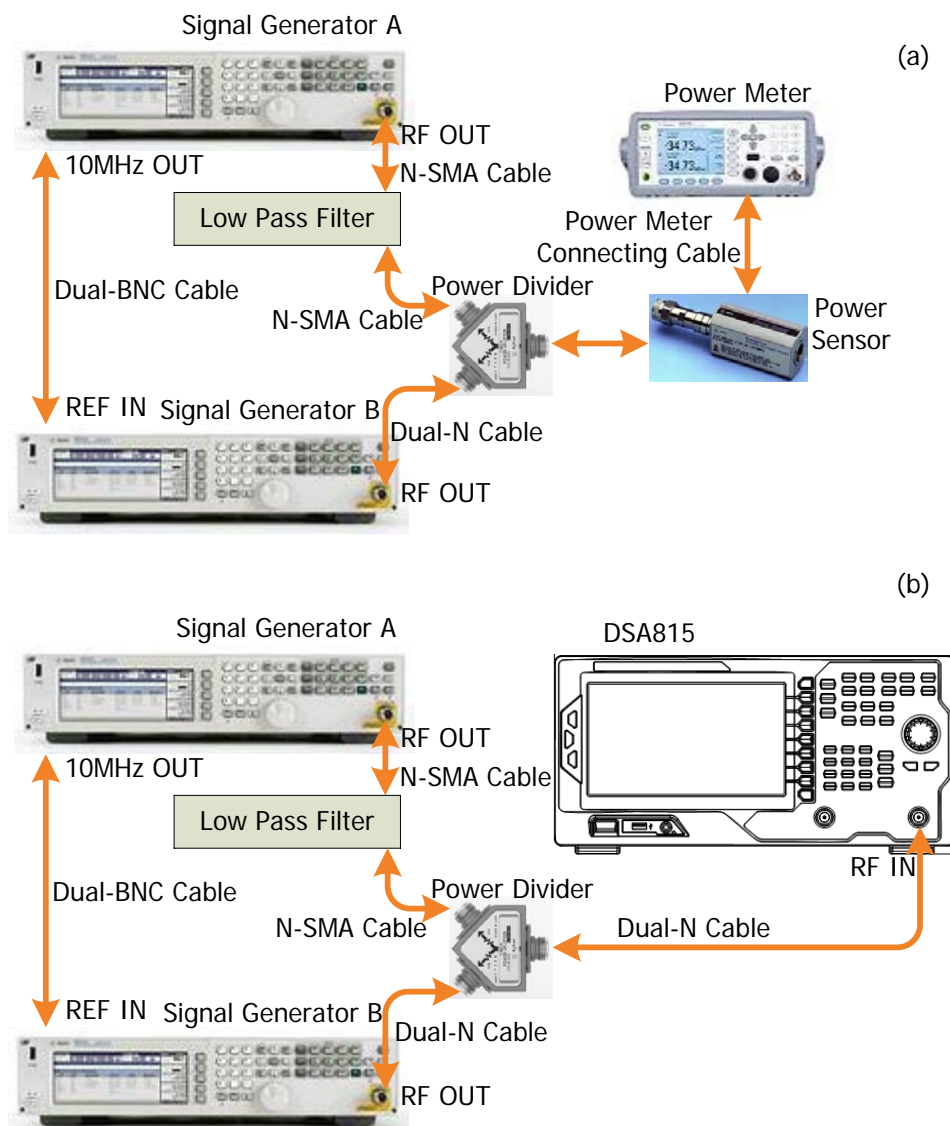

Figure 2-6 TOI Distortion Test Connection Diagram
4. Connect the output terminal of signal generator B with the power divider and connect the power divider with the power sensor, as shown in Figure 2-6 (a).
7. Enable the outputs of the two signal generators. Disconnect the power divider and power sensor and connect the power divider with spectrum analyzer, as shown in Figure 2-6 (b).